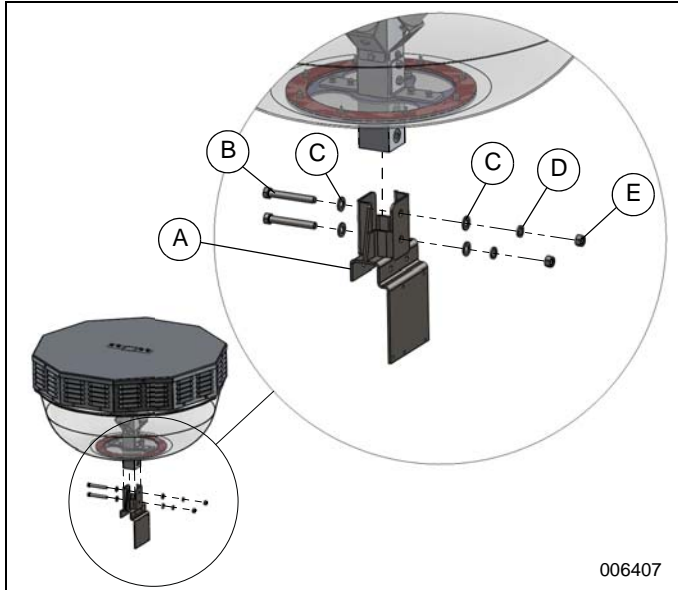

Figure 11. Mounting Weldment Installation
6. See Figure 11. Install weldment bracket to light. Tighten hardware to 41.7 ft-lb (56.5 Nm).